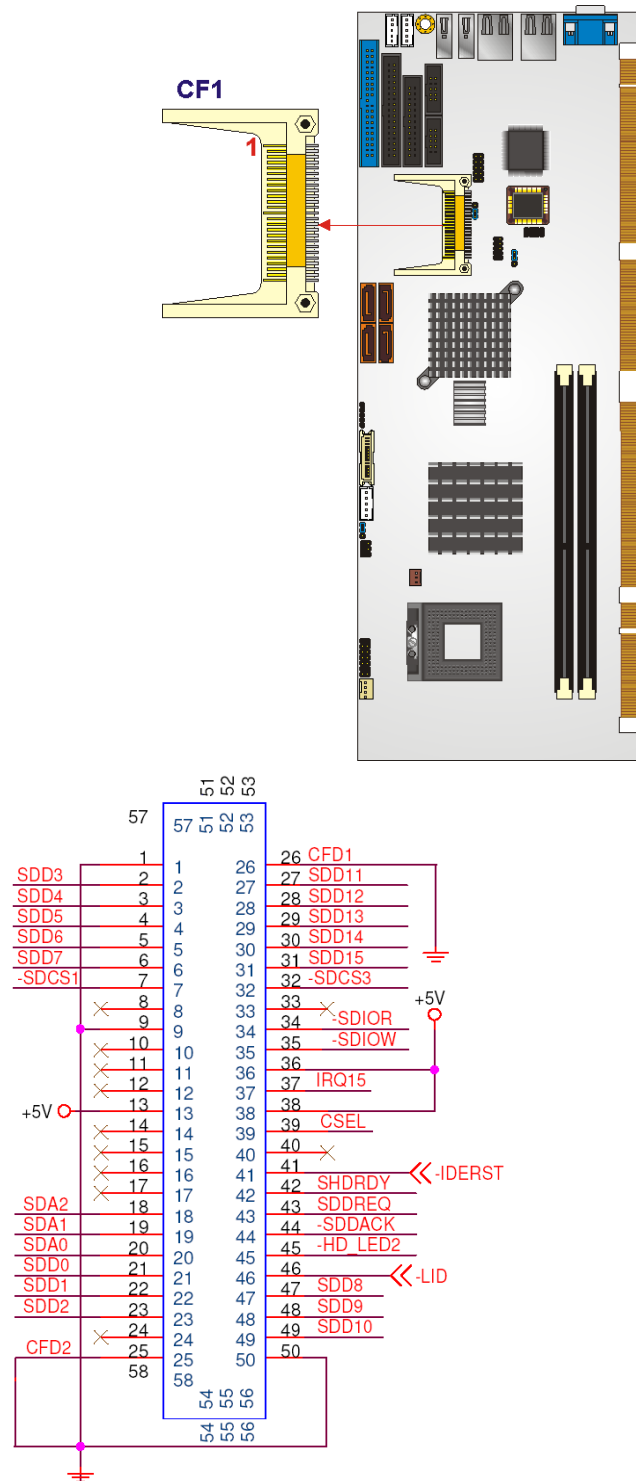

Figure 4-5: CF Card Socket Location
- CN Location:** See Figure 4-5